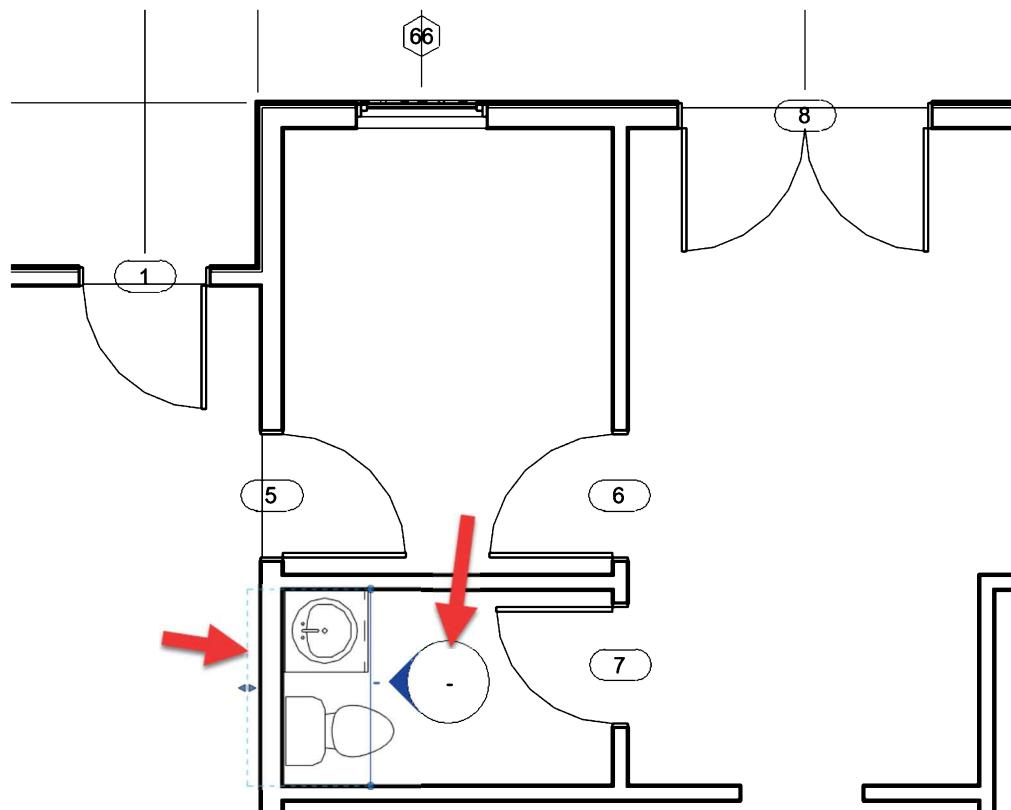

FIGURE 12-1.6 Elevation tag added and adjusted
12. Place an **Elevation** tag, with the *Type Selector* set to **Interior Elevation**, looking towards the “wet” wall, the wall with fixtures on it (Figure 12-1.6).